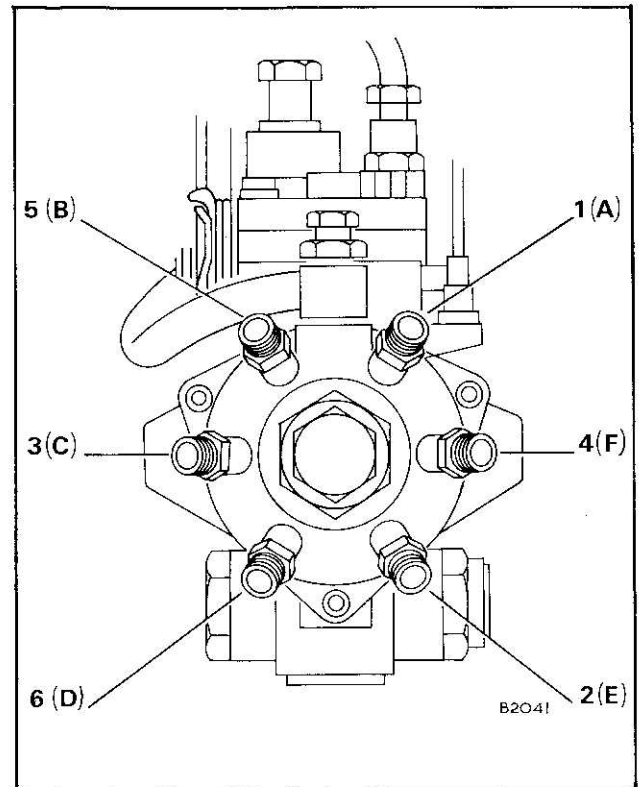

Fig. 6
4. Fit fuel pipes to pump. The relevant marked letters and cylinder numbers of the pump outlets are given in Fig. 6.